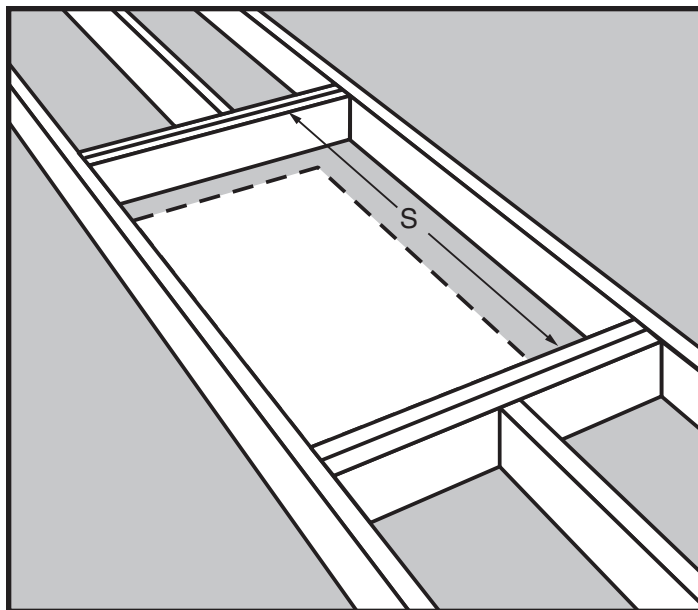

Figure 17
- STEP 1.** Measure the stringer length "S" between the headers (See Figure 17).
- STEP 3.** If the ceiling joist does not provide one side of the frame, then cut a second stringer the same length as the first one. Note that only one stringer is needed in Figure 17 because the ceiling joist provides one side of the frame.